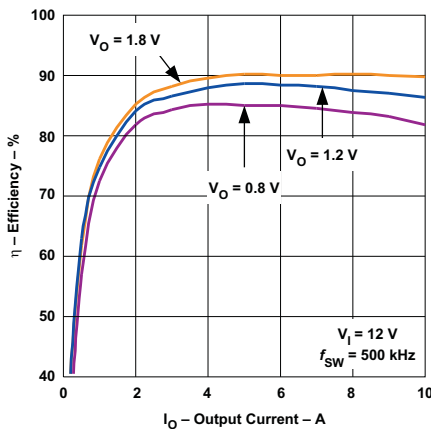
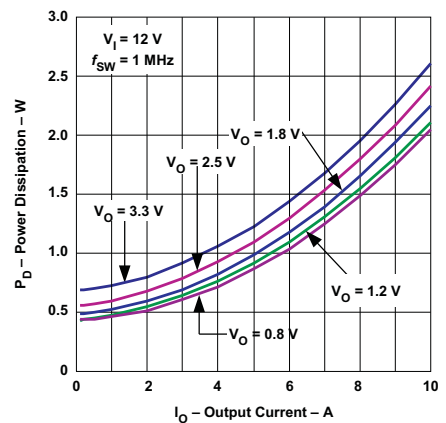

Figure 1. Efficiency
Figure 6. Power Dissipation
- The electrical characteristic data (Figure 1 through Figure 6) has been developed from actual products tested at 25°C. This data is considered typical for the converter.